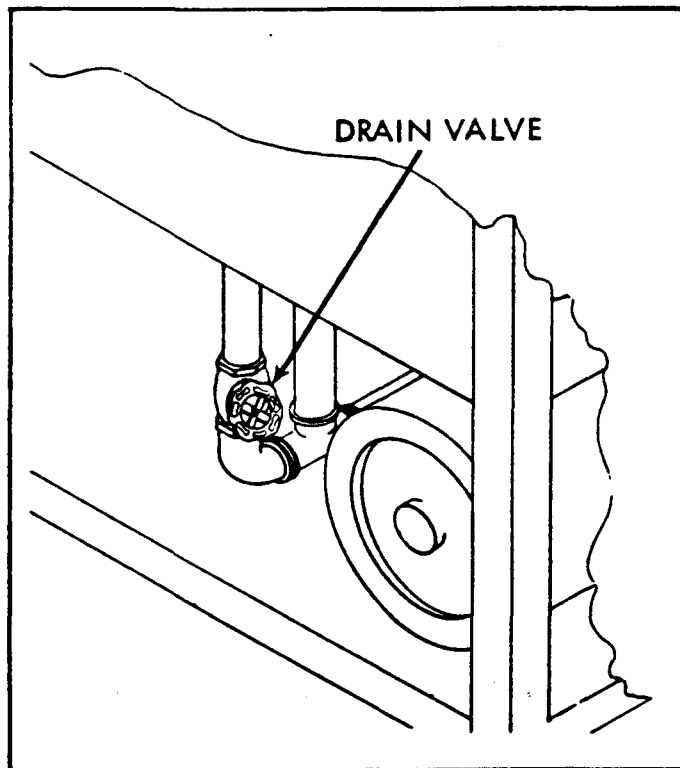
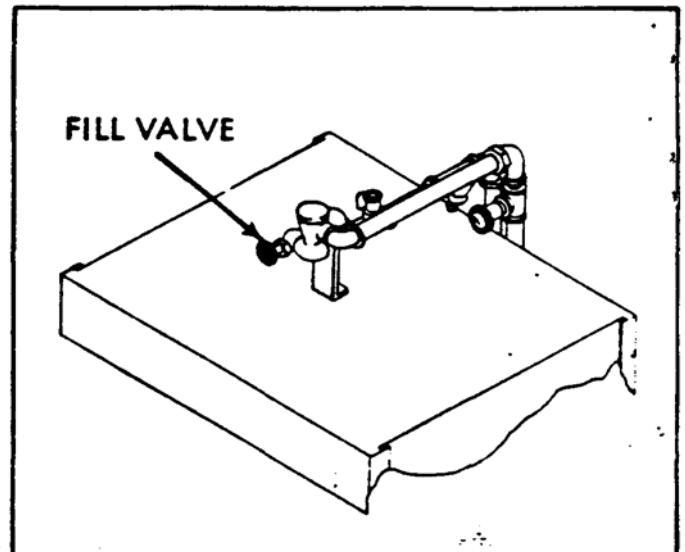

Figure 3
Figure 4
12. When all plumbing and electrical connections are completed, fill the tank with water and let stand for a period of thirty (30) minutes: check for possible leaks in the service connections. Run the pump to check for proper rotation in accordance with the indicating arrow on it. Also check out automatic time cycle and manual controls.
13. Open the drain valve and check all waste line connections for leaks. (See Figure 3)
2. Close the tank drain valve (See Figure 3). Open the fill valves; shut off when the tanks are full (See Figure 4).